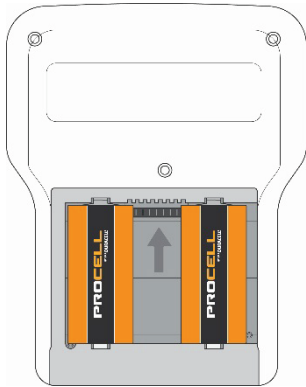

Figure 5: Battery Compartment with Disposable Batteries Installed (Door Removed)
4. Insert the new C-Cell batteries, making sure to place the positive (+) poles at the top and negative (-) poles of the batteries at the bottom (Figure 5).